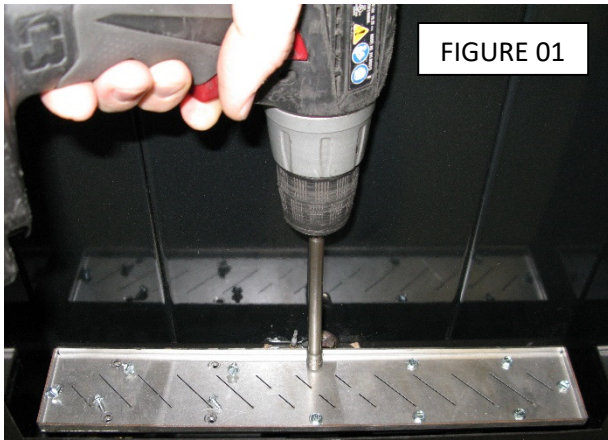

FIGURE 01
Your fireplace will have shipped from the factory with the Glass Media burner top in place, before installing the logset burner top, we need to remove the glass burner top. The burner top is held in place by (12) #8 x 3/8" sheet metal screws using a 1/4" nut driver around the perimeter of the burner, remove these screws. Keep these screws in a safe place as they will be needed to secure the valve bracket again once the logset burner is installed. (Figure 01)